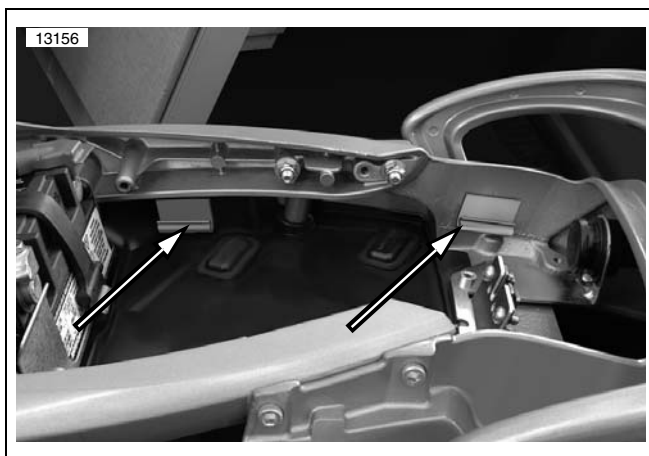

Figure 3. Extension Cord Retaining Clips
7. See Figure 3. Using the wire retaining clips with self adhesive backing, attach the harness extension cord to the right tail section.